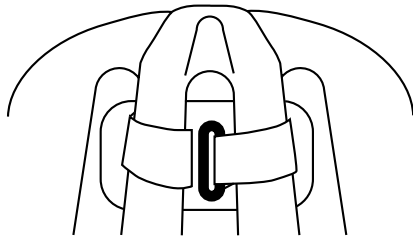

Fig. 2
2. Feed the strap down through one hole and up through another until it meets the "D" ring (see Figure 2).